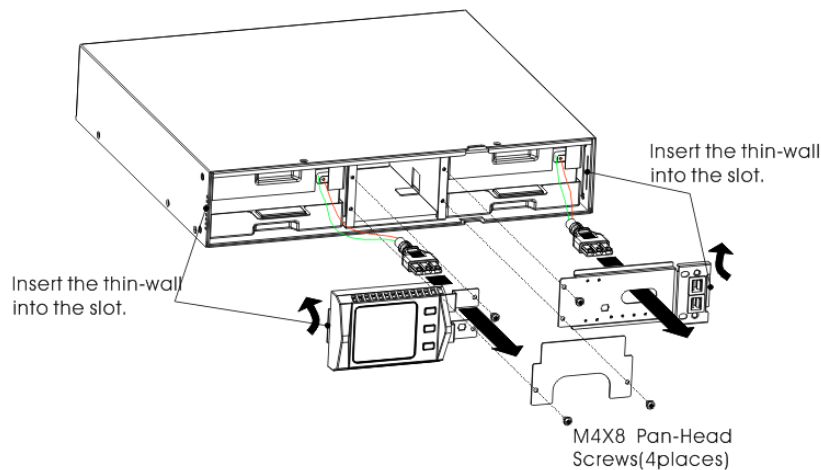

FIG.24 Installation for battery pack
5. Hold the middle of the new battery pack and insert it. Once install the new battery pack, make sure it is completely inserted into the chassis as fig 24 shows.